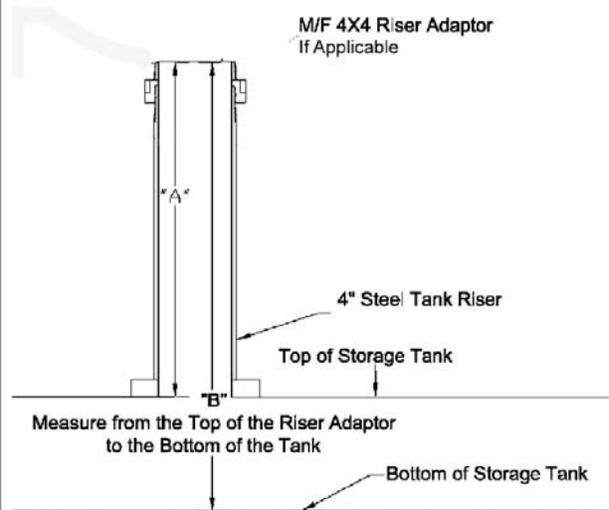

Figure 1
STEP 2 Determine the total height of the Fill (product) riser height with the M/F 4X4 riser adapter installed. See Figure 1, Measurement “A” (Note: Both the fill riser and M/F 4X4 riser adapter must be installed and correctly torqued.) To determine the fill riser height, (M/F 4X4 riser adapter must be installed if applicable) take a tape measure and measure from inside the installed fill riser, (hook the tape on the end of the riser or on the inside top of tank) and measure from the bottom end of the fill riser to the top of the M/F 4X4 threaded riser adapter installed on top of the riser.
This is Measurement “B” () inches (See Figure 1)